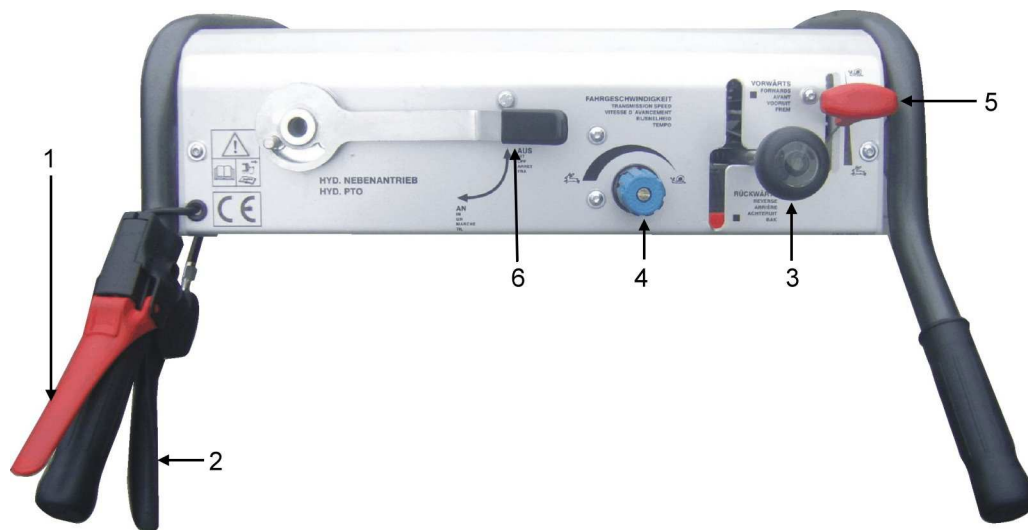

Figure 5.1
7.3 Operating the Transmission (Refer to figure 5.1)